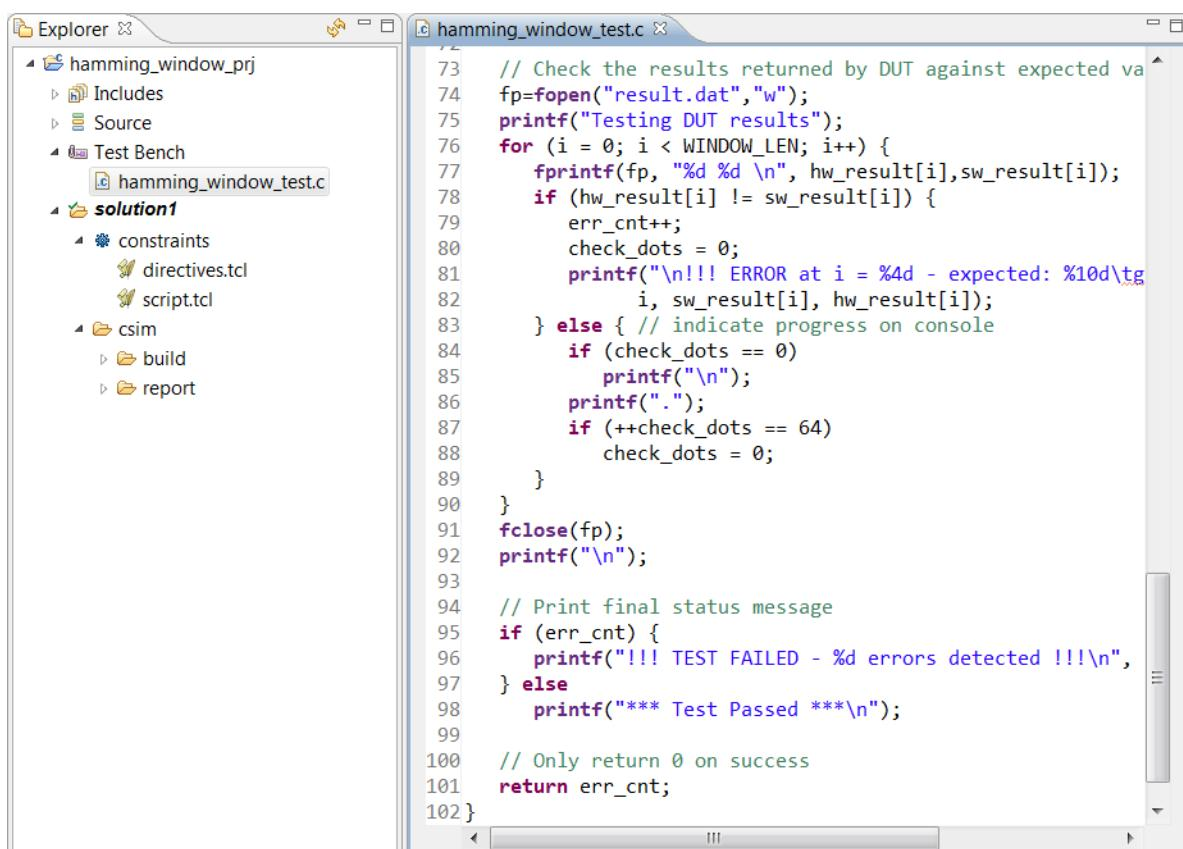

Figure 3-3: C Test Bench for C Validation Lab 1
1. Open the C test bench for review by double-clicking `hamming_window_test.c` in the Test Bench folder (Figure 3-3).